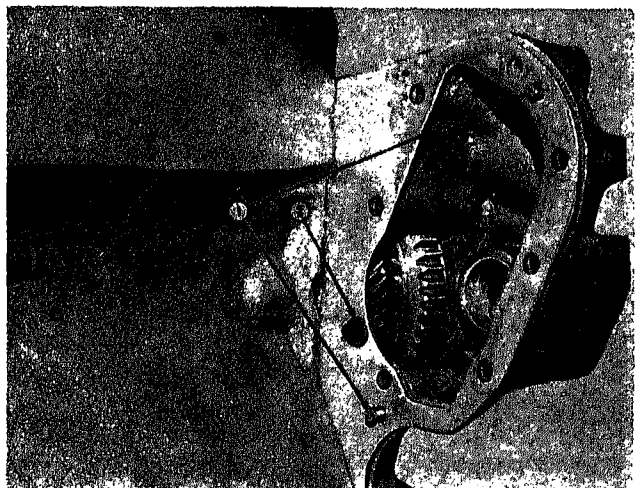

Fig. 14-1-61. Supercharger locating dowels and oil ferrule
Check to see that locating dowels (1, Fig. 14-1-61) are in place in gear cover; place a new rubber "O" ring (2) over oil transfer (supply) ferrule.